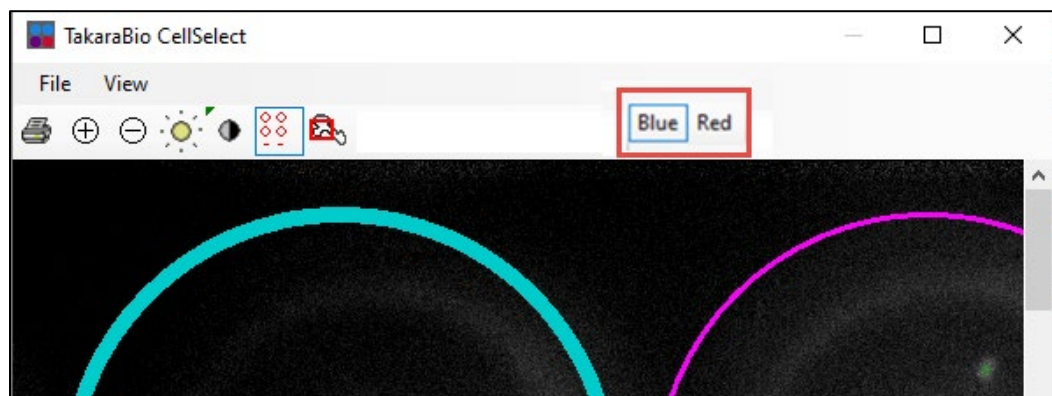

Figure 82. The *ImageViewer* window during auto tune.
1. Review an image by clicking on a row in the table. Select which color to display by clicking on the channel color buttons in the *ImageViewer* toolbar. Figure 82 uses a red square to highlight where to find the channel color buttons, while ‘Blue’ is the selected value.